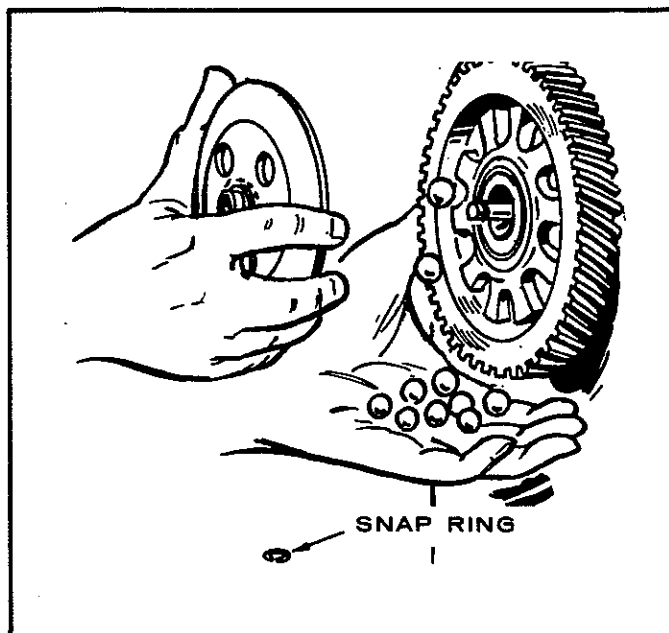

FIGURE 11-4. GOVERNOR CUP REMOVAL
3. Remove the snap ring that holds the governor cup to the camshaft gear (Figure 11-4). Be careful to catch the flyballs as the governor cup is removed.